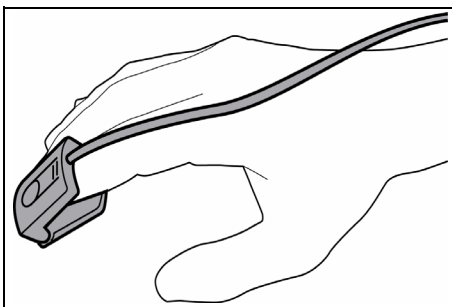

FIGURE 10-12 Reusable finger clip sensor
1. Insert the finger (preferably the index, middle, or ring finger) into the Nonin finger clip until the end of the finger reaches the finger stop (shown in FIGURE 10-12). Keep the fingernail facing the sensor top. Ensure that long fingernails are not interfering with the proper finger position.